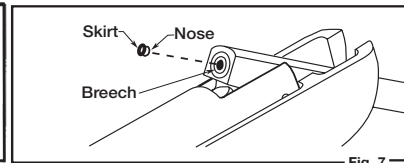

Fig. 7
- With the barrel in the open position, after it has been cocked, place one pellet, nose forward, into the breech (Fig. 7). Make sure that the skirt of the pellet is flush with face of breech.